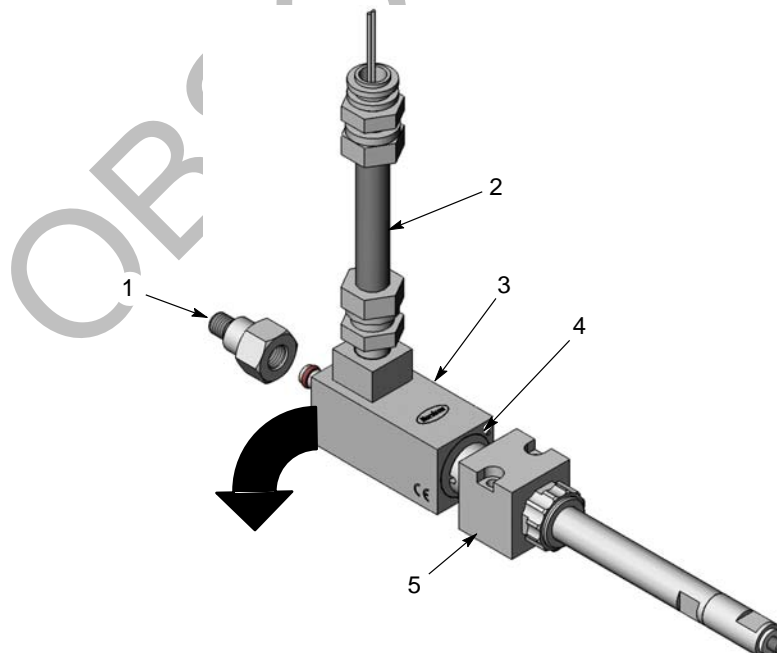
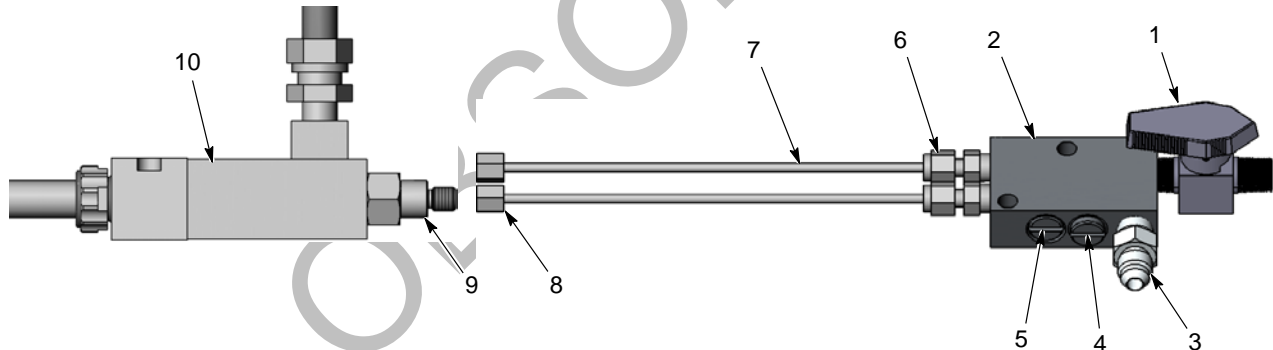

Figure 3 Conduit Orientation
Figure 5 Optional Dual Manifold Kit
1. See Figure 3. Unscrew the tubing adapter (1) from the spray gun.
2. Pull the coil housing (3) away from the body (5) about 1.5 mm ($\frac{1}{16}$ in.), until the pin (4) in the coil housing is clear of the hole in the body.
3. Rotate the coil housing until the conduit (2) is at the desired position. Push the coil housing and seat body together, making sure the coil pin fits into the hole in the body.
Connect $\frac{1}{8}$ in. tubing to the adapter (1, Figure 3) or dual manifold inlet connector (3, Figure 5). The connector threads are $\frac{1}{2}$ -20, 37° JIC.